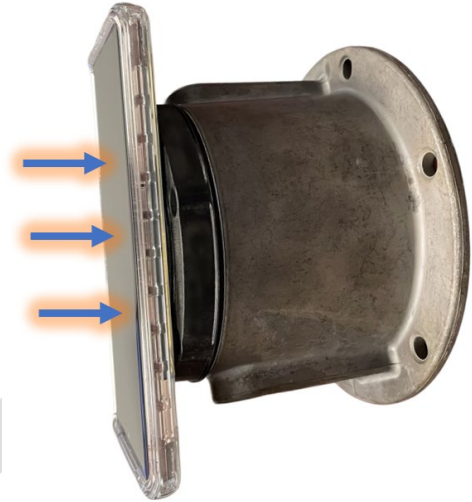

Figure 32: NFC Scan – place phone fully against WES as shown until App shows successful scan
3. NFC scan each TIREMAAX TPMS sensor to connect and configure it (See Figure 32)